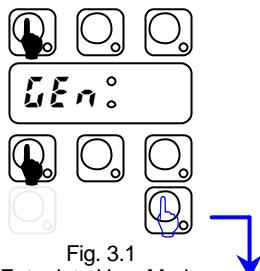

Fig. 3.1
- Enter into the USER SETTING mode by pressing and hold down ON/OFF and CYCLE_1 keys for at least five seconds the display shows **LEN** (Fig.3.1);